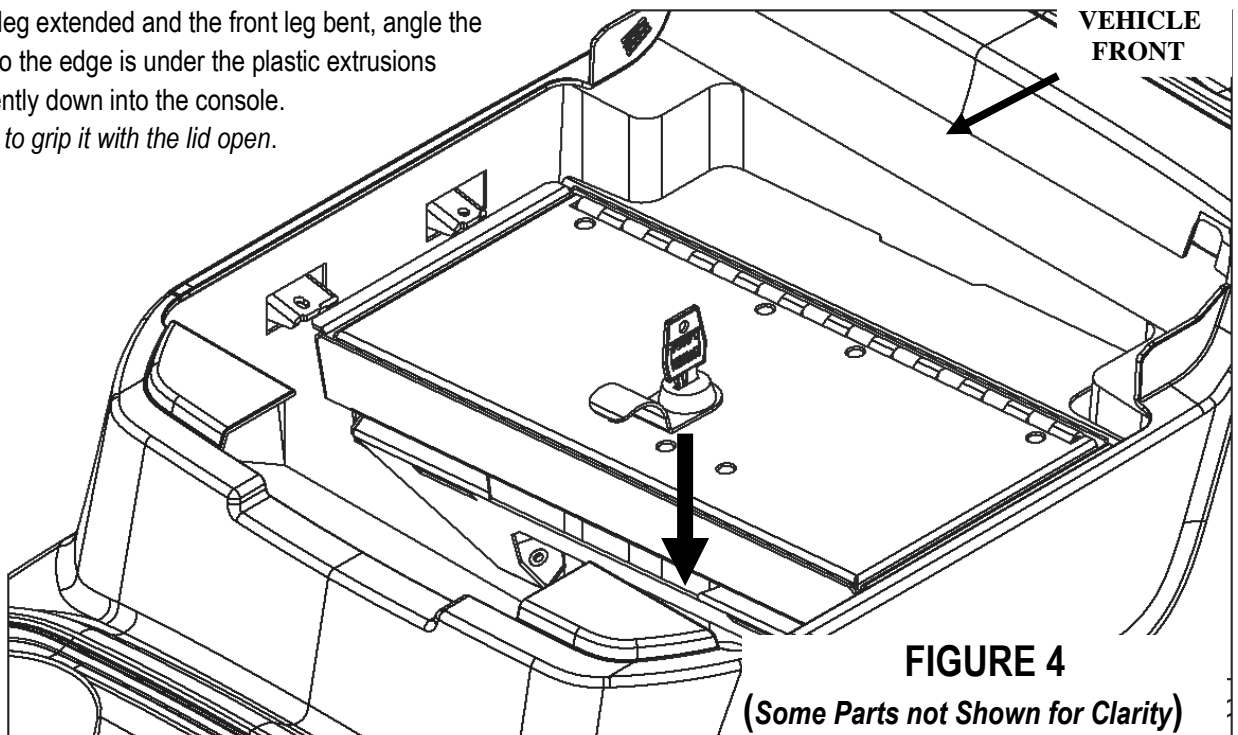

FIGURE 4
- With the back leg extended and the front leg bent, angle the console safe so the edge is under the plastic extrusions and place it gently down into the console. You may want to grip it with the lid open. **See Figure 4**